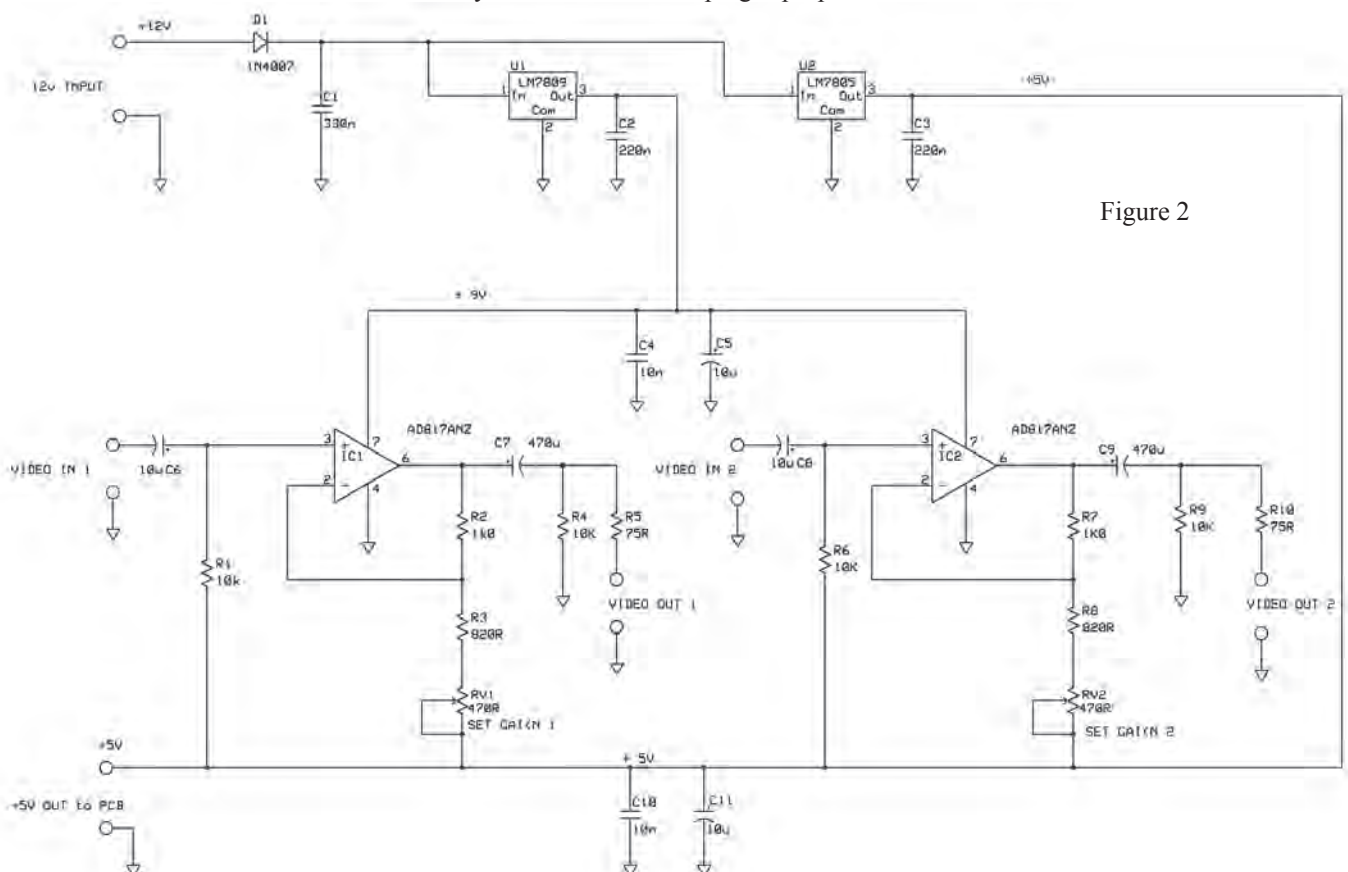
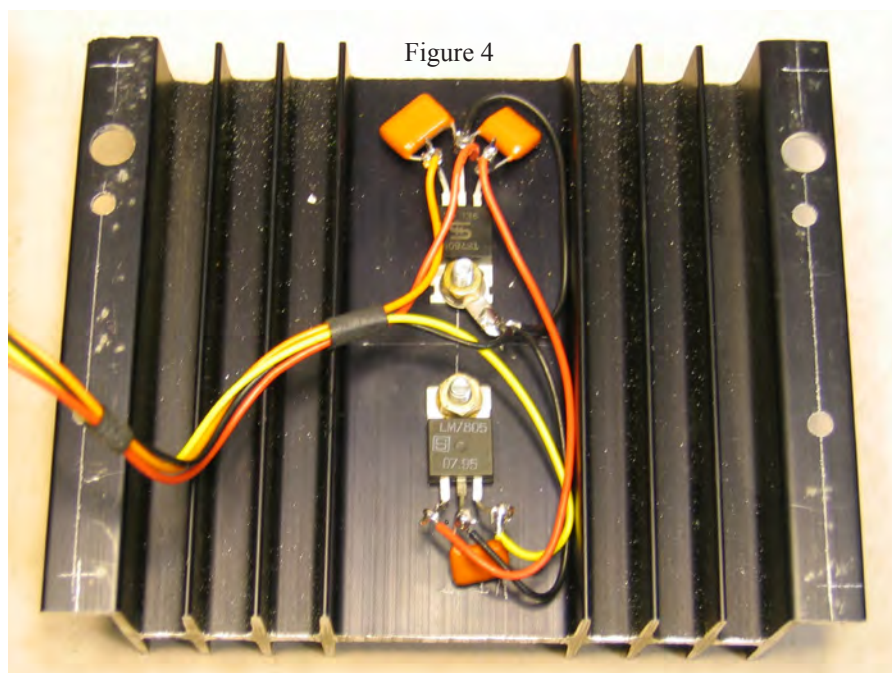

Figure 2
Figure 4
= 4.4Watts The Emprex box is plastic so a suitable aluminium heat sink would be needed. The one from my junk box was thermally larger than required but it fitted comfortably on top of the Emprex box. I fitted the two regulators on the underside of the heatsink, as shown in Fig.4 and wired them as shown in the circuit diagram, Fig.2.
- Fig. 2. Modified Circuit Diagram
- Fig. 4. Heat-sink Wiring